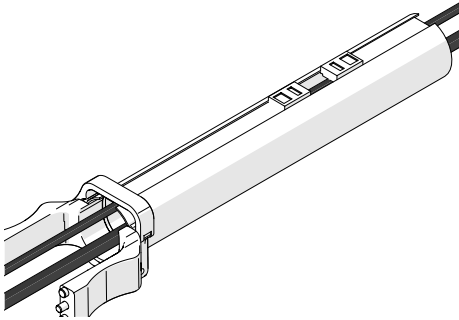

Fig. 141 - Zip opposite end
3. Once the cable is placed the entire length of tube, bring the zipper from the opposite end to meet at any point in the middle. (Fig. 141)